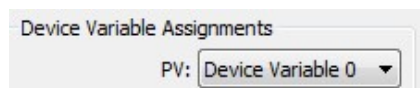

Figure 5.40 Selection of device variables
1. Select the "detailed design"-"device variable assignment"-"device variable assignment" corresponding to the "main variable" drop-down box, as shown in Figure 5.40: